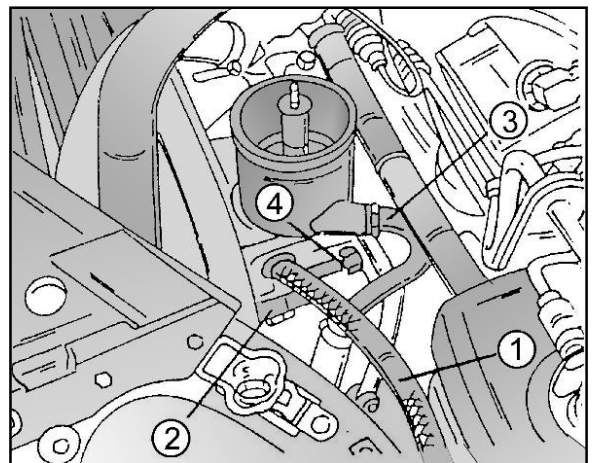

Fig. 1.11 – The hose connections on the steering pump and the tandem pump.
- Disconnect the return pipe and the high pressure hose from the connections on the steering pump. If a tandem pump is fitted, the high pressure hose and an oil pipe must be disconnected. You will have to know of course which type of pump is fitted. The various connections are shown in Fig. 1.11. After connecting the various hoses the pressure chamber of the tandem pump must be bled of air.